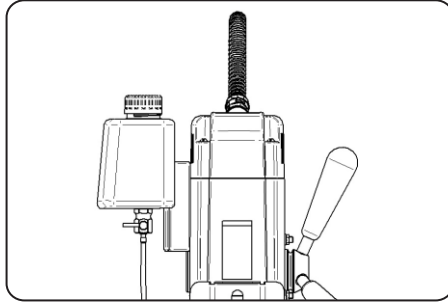

Fig. No. 6
2. Fix the coolant bottle SA on body with allen screws (Fig. No.6)